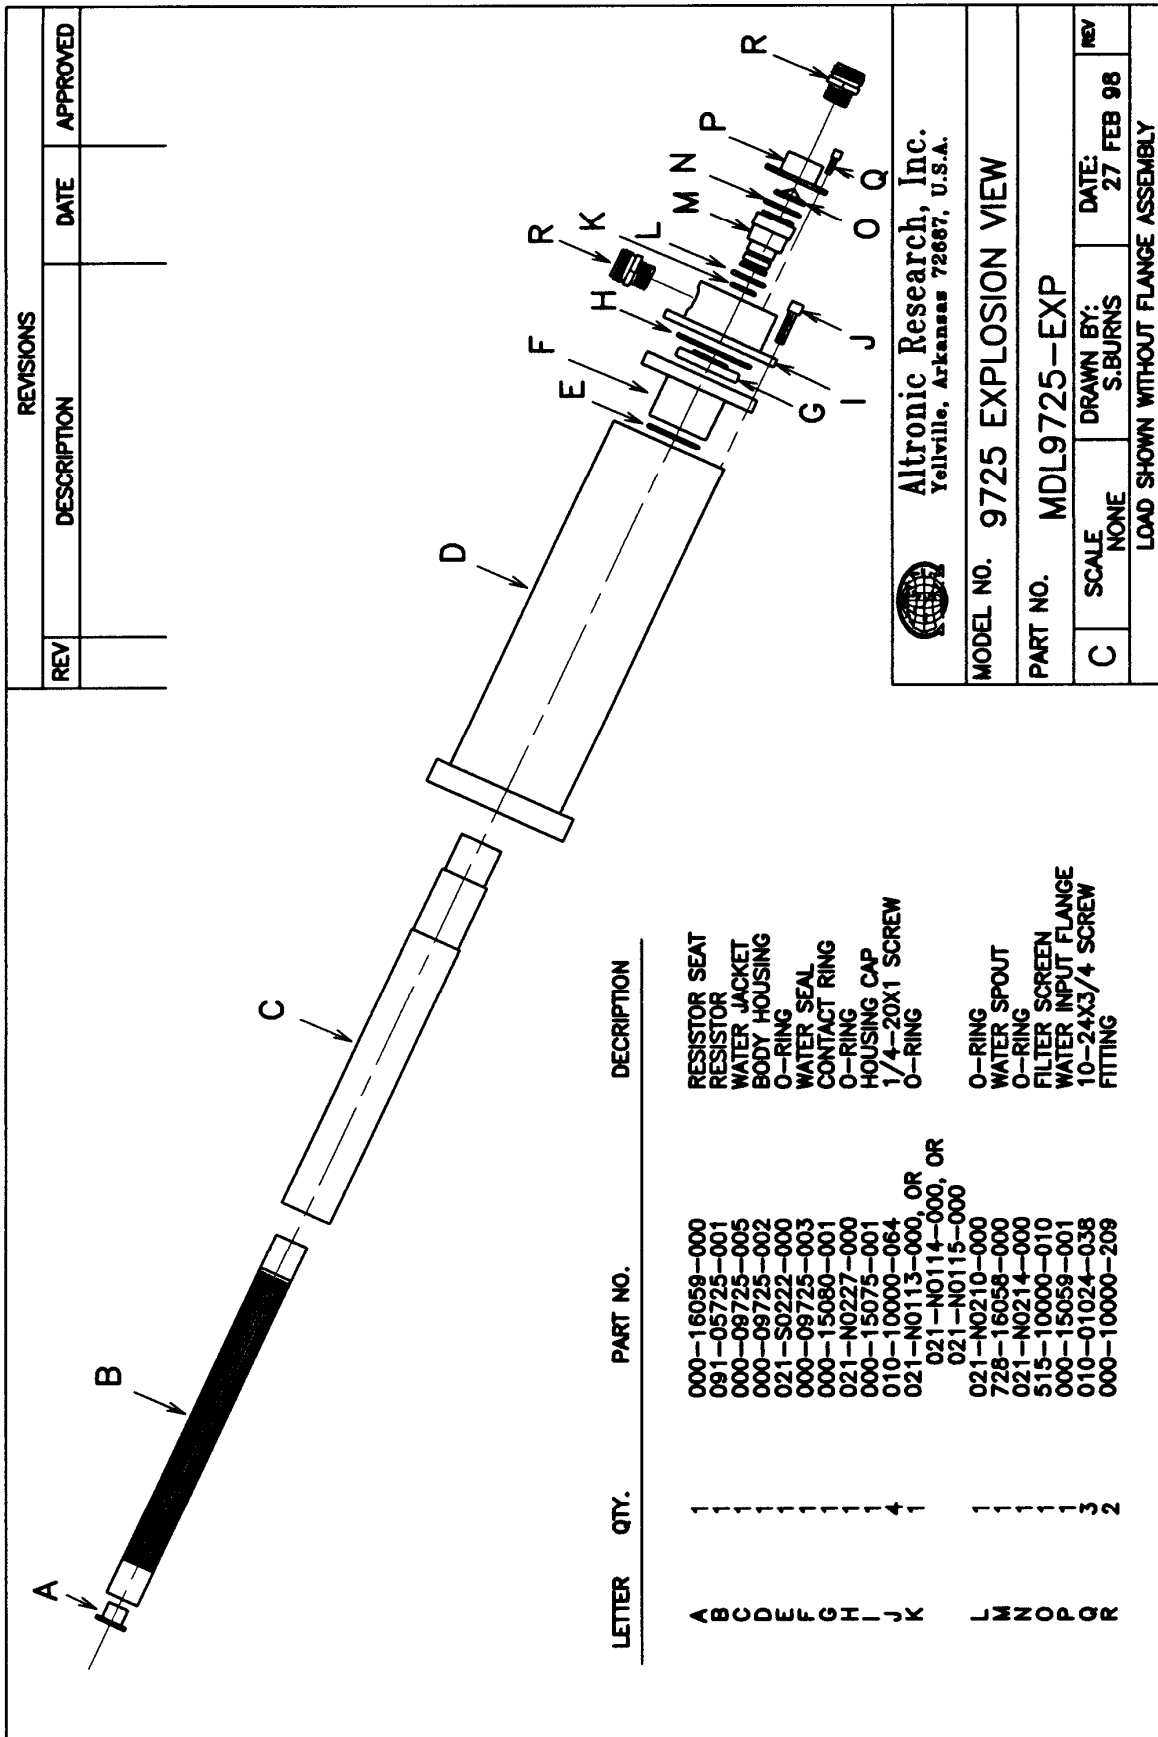
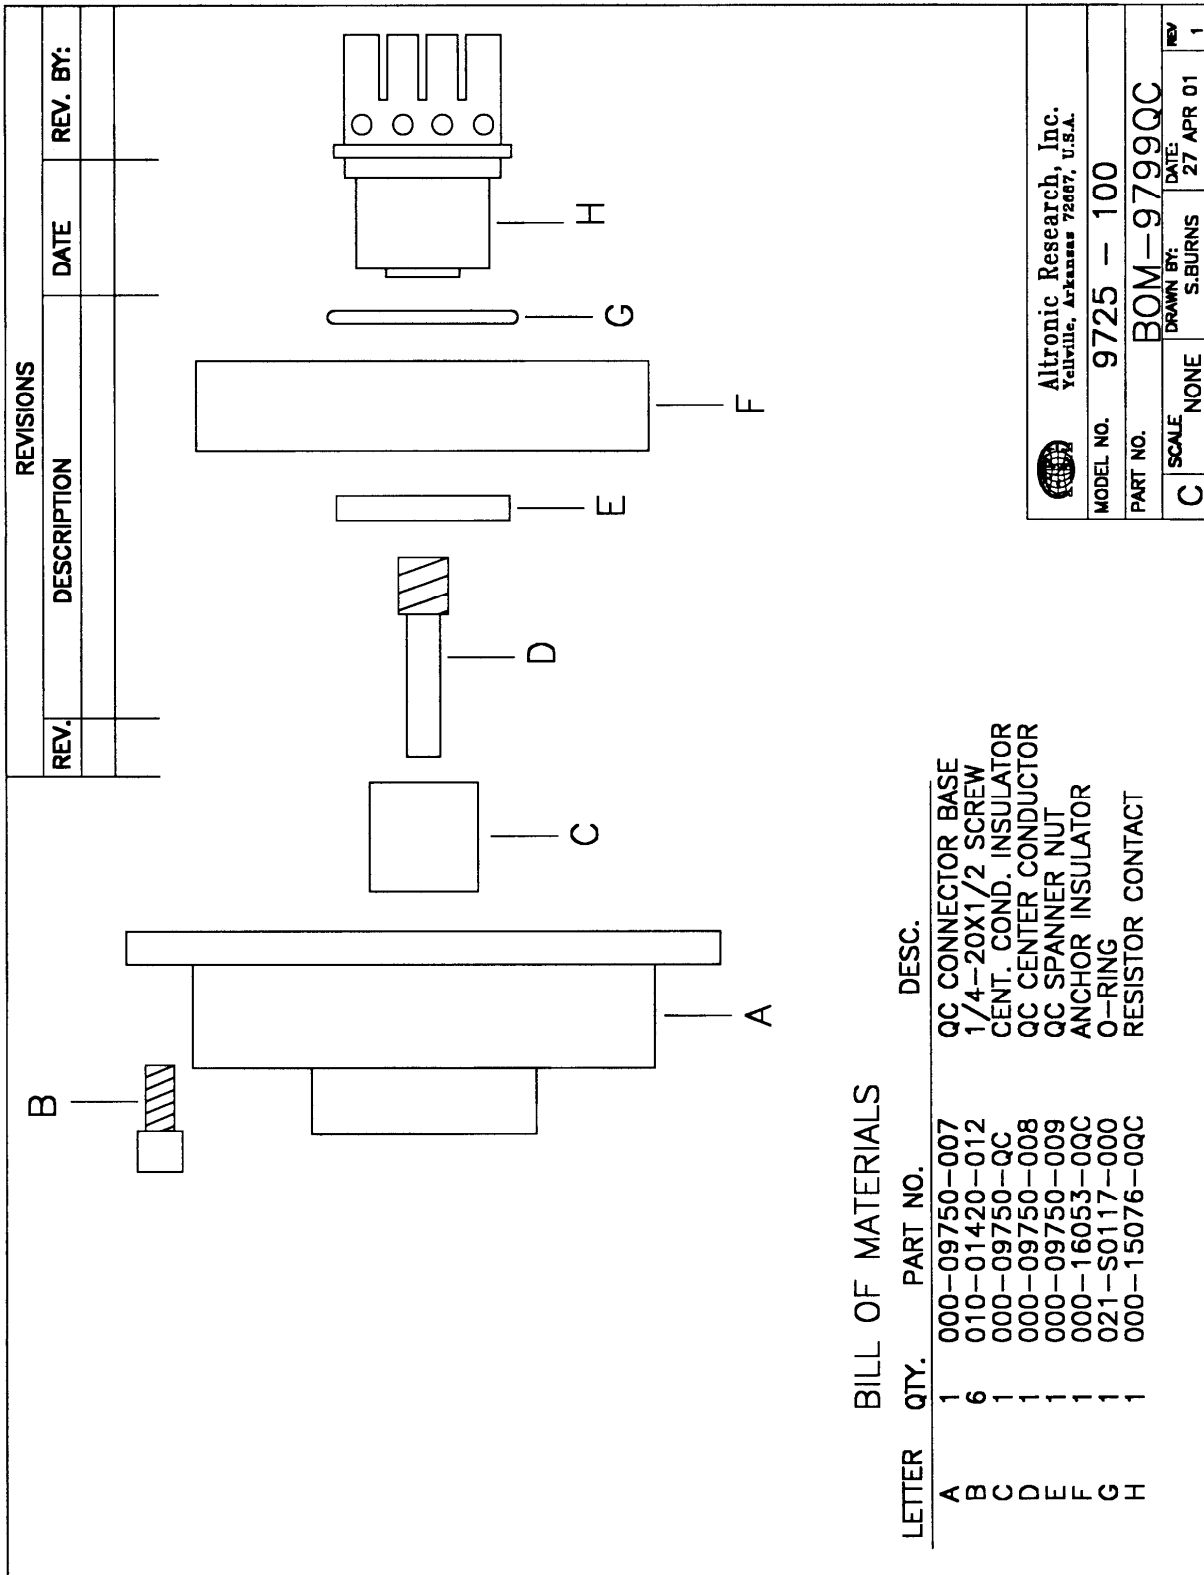

Fig. 14
Fig. 15
4. **Resistor Replacement** - (Refer to Fig. 14) To replace the resistor element, remove the three 10-24x3/8" cap screws (item Q). Remove water input assembly (items O, P, and R). Inspect filter screen for damage, replace if eroded or torn. Remove four 1/4-20x1" cap screws (item J). Remove housing cap assembly (items G, H, I, R, K, M and N). Inspect all O-rings for distortion or damage. Replace if pinched, cut, burned or no longer round in cross section. Inspect ring contact (item G) for signs of arcing or loss of silver in the area of contact with the resistor contact band. Replace if damage is noted. If
- 5. Removal of RF Input** - (Refer to Fig. 15) To remove the RF input line adaptor flange, remove six 1/4-20x1/2 socket head screws (item D) that secures the line adaptor flange (item A) to the load body housing (item D, Fig. 14). The RF input assembly consisting of the center conductor, anchor insulator and front resistor contact (items C, D, E, F, G, and H) will normally remain in the load body. Grasp the center conductor (item D) by hand and attempt to pull the input assembly out of the load body using slight side to side motion while pulling. If strong resistance is encountered, it may be necessary to chill the load to allow the anchor insulator to shrink away from the load housing. This can be done by placing the load in a freezer, or packing the load in ice for 20 to 30 minutes. Once the anchor insulator has shrunk away from the load housing, the RF input assembly should be easily removed. At this point of disassembly, all components of the load can be inspected or replaced as needed. Reassembly should be done in the reverse order of sequence.